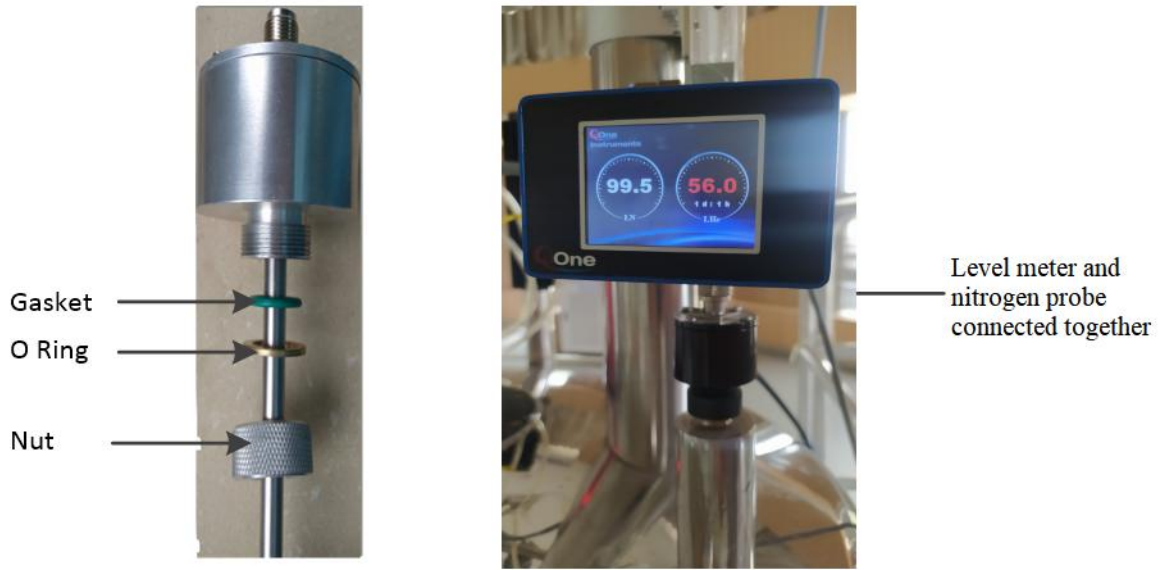

Fig. 8 Install nitrogen probe reference
Install level meter as Fig.8 to Fig.10.
- a) Loose the nut of nitrogen probe and slide down the nut, gasket and O ring at least 2cm as shown in Fig.8.